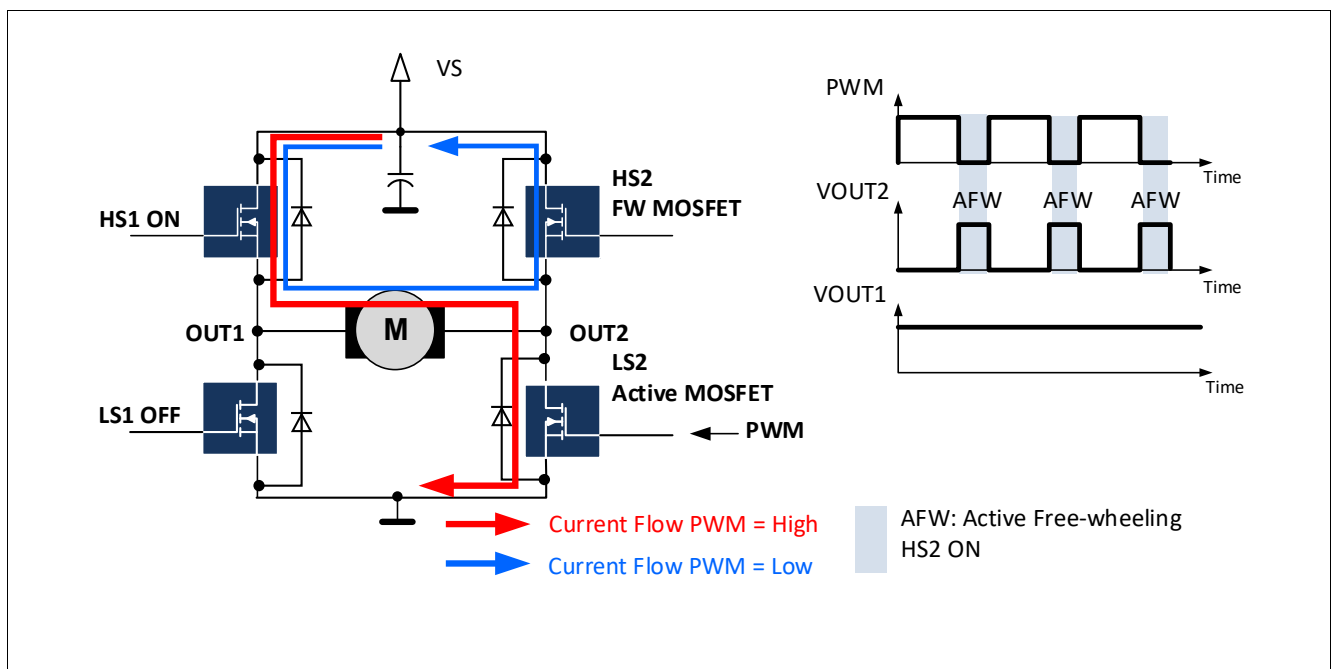

Figure 12 Active freewheeling on HB2: PWM1EN = 1. PWM applied to LS2 (HB2MODE[1:0] = 01_B).
An active free-wheeling is automatically implemented when a half-bridge is activated in PWM mode to reduce the power dissipation of the free-wheeling (FW) MOSFET: If the active MOSFET is OFF, the opposite (free-wheeling) MOSFET of the same half-bridge is actively turned on. See **Figure 11**, **Figure 12**, **Figure 13**, **Figure 14**, .